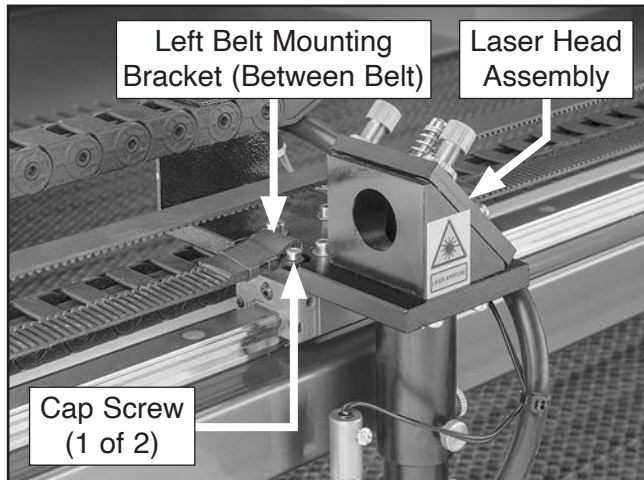

Figure 79. X-axis left belt tensioner bracket location.
4. Remove (2) cap screws on left belt mounting bracket securing X-axis synchronous belt, then remove bracket from belt, as shown in **Figure 79**.